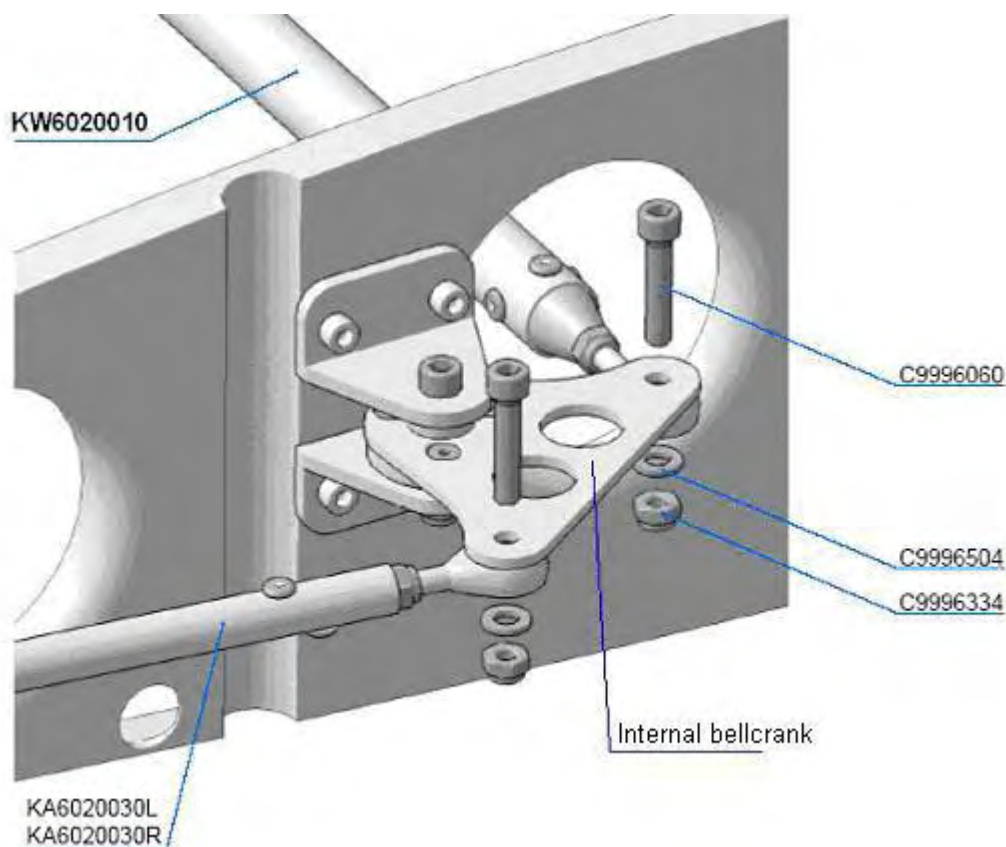

Fig. 5
Unscrew the nut C9996334 (Self-locking nut DIN 985-M6, regular) by a 10 wrench and 5 hex-hut wrench. Disconnect the rod (KA6020030R) from the internal bellcrank. Fig. 5.
Connect the aileron rod (1) (KA6020030R) with internal bellcrank (Fig. 5). Engage, but do not tighten the nut on the bolt.